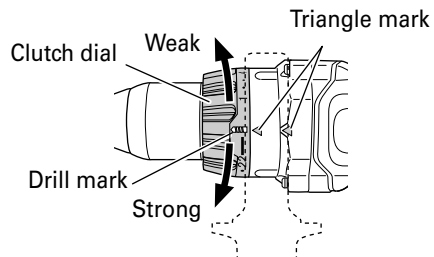

Fig. 10
- 7. Confirm the clutch dial position (See Fig. 10).
- (2) Tightening torque indication (See Fig. 10, 12)
- (3) Adjusting the tightening torque (See Fig. 10, 12)